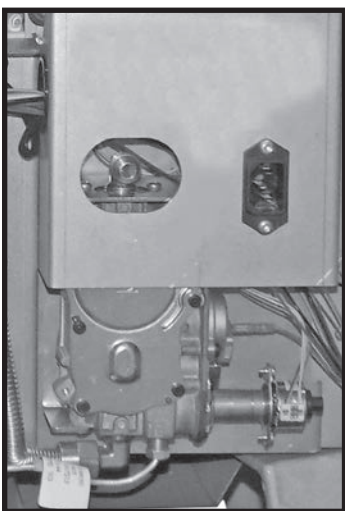

Figure 69: Control valve location.
1. Remove back panel and locate the valve as seen in (Figure 69).